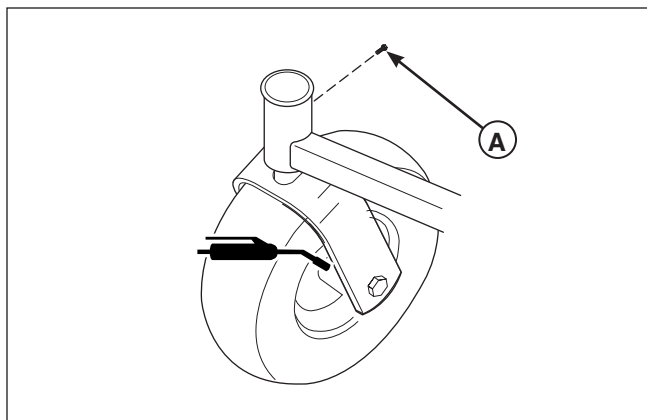

Figure 10. Lubricating the Front Casters
1. Remove the 1/4-28 bolt (A, Figure 10) that is screwed into the caster and install a 1/4-28 grease fitting.